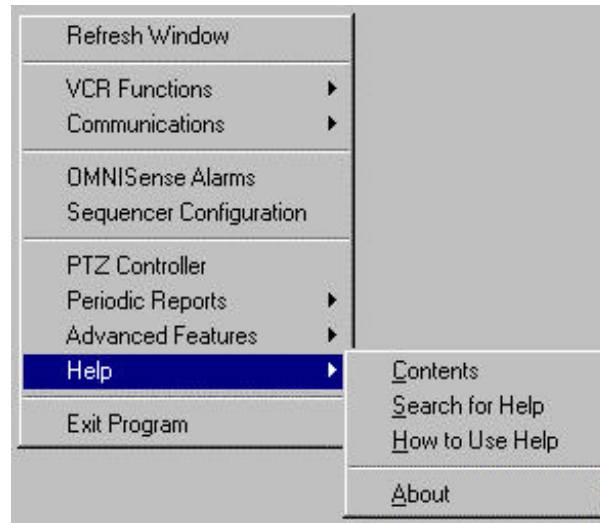

Figure 3.29 Accessing the Help Menu
Like other software programs, WeatherScene™ software has on-line assistance and “help” information available to assist the operator. It is available via the floating menu (Ref to Fig 3.29)
1. Position the mouse in the video display area and click the right button to bring up the floating menu. Highlight “Help” selection (refer to Fig.3.29).